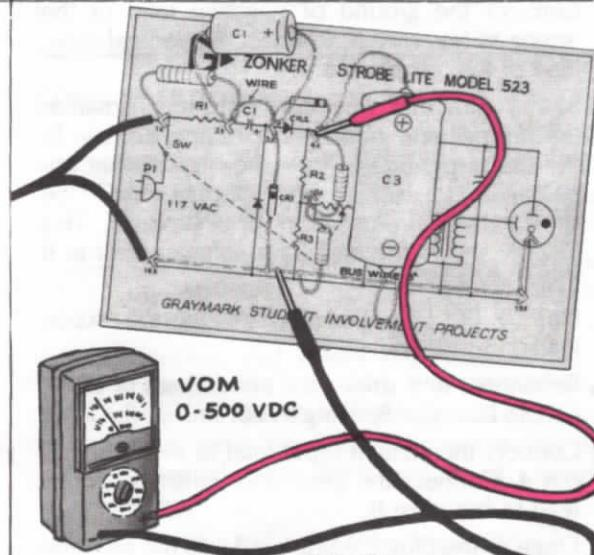

FIG. 22
- _____ b. Connect a clip lead or a piece of bus wire (bare copper) between pins 2 and 3. (Refer to Figure 22.)
- _____ c. Connect the positive (+) lead (lead nearest to "+") of capacitor C3, 22 mfd, 450 WV, electrolytic, to pin 4 as shown in Figure 22. Connect and solder the other lead (-) to bus wire B. The purpose of this capacitor is to provide a load for the voltage doubler circuit in order to perform this test.
- _____ d. Adjust the VOM to the 0-500-volt DC range. Connect the positive (+) meter lead to pin 4 and connect the negative (-) meter lead to bus wire B. Refer to Figure 22.